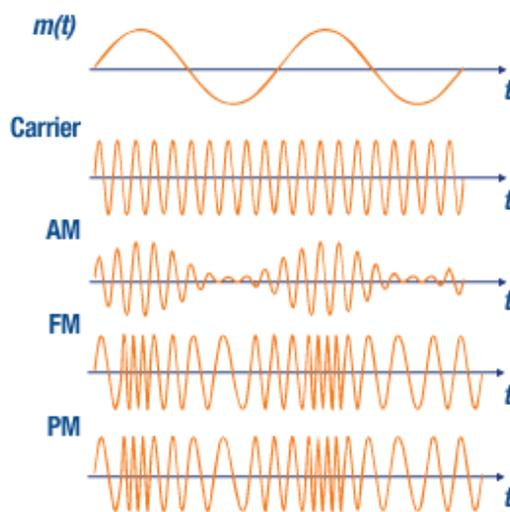

Figure 3: Output of AM/FM/PM Modulation Schemes
Amplitude Modulation (AM): In amplitude modulation, the amplitude of the carrier signal changes according to the amplitude of the modulating signal. The amplitude of the modulated signal is known as an envelope and depicts the modulating signal. Single Sideband (SSB), Double Side Band Suppressed Carrier (DSB-SC) and Vestigial Side Band (VSB) are some of the power-efficient versions of AM modulation. Figure 3 shows a typical amplitude modulated signal, demonstrating the modulating signal superimposed over the envelope of the modulated signal. Radio broadcasting uses amplitude modulation.
Angle Modulation: Angle modulation is achieved by varying the frequency or the phase of the carrier signal and is called either Frequency Modulation (FM) or Phase Modulation (PM), respectively. FM is used in radio broadcasting and for audio in TV signals. Figure 3 demonstrates Frequency and Phase modulated signals.